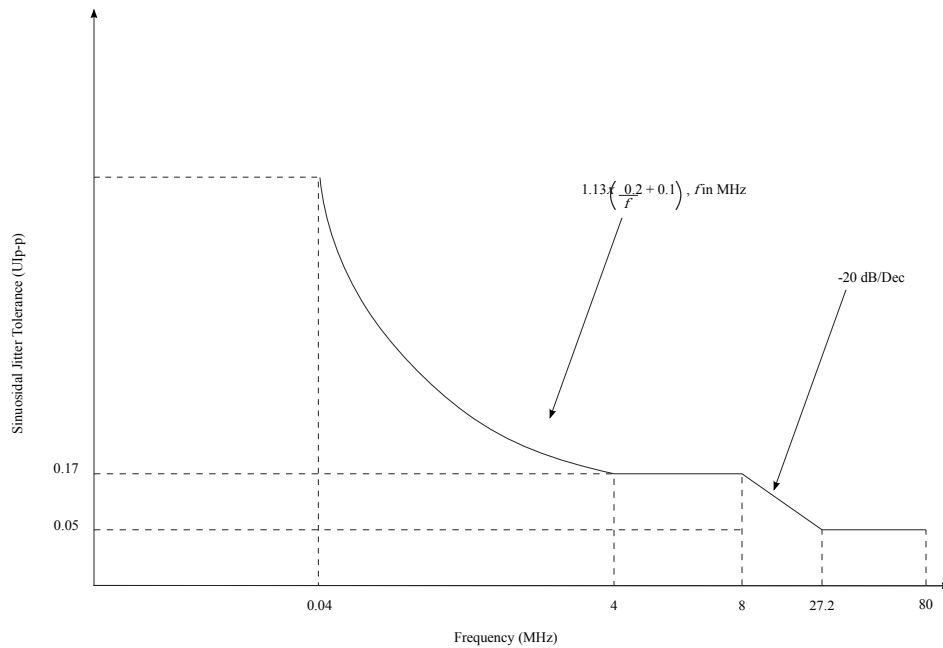

Figure 59. XFI host receiver input sinusoidal jitter tolerance
1. The total jitter (TJ) consists of Random Jitter (RJ), Duty Cycle Distortion (DCD), Periodic Jitter (PJ), and Inter-Symbol Interference (ISI). Non-EQJ jitter can include duty cycle distortion (DCD), random jitter (RJ), and periodic jitter (PJ). Non-EQJ jitter is uncorrelated to the primary data stream with exception of the DCD and so cannot be equalized by the receiver under test. It can exhibit a wide spectrum. Non - EQJ = TJ - ISI = RJ + DCD + PJ.
3. See Figure 59.